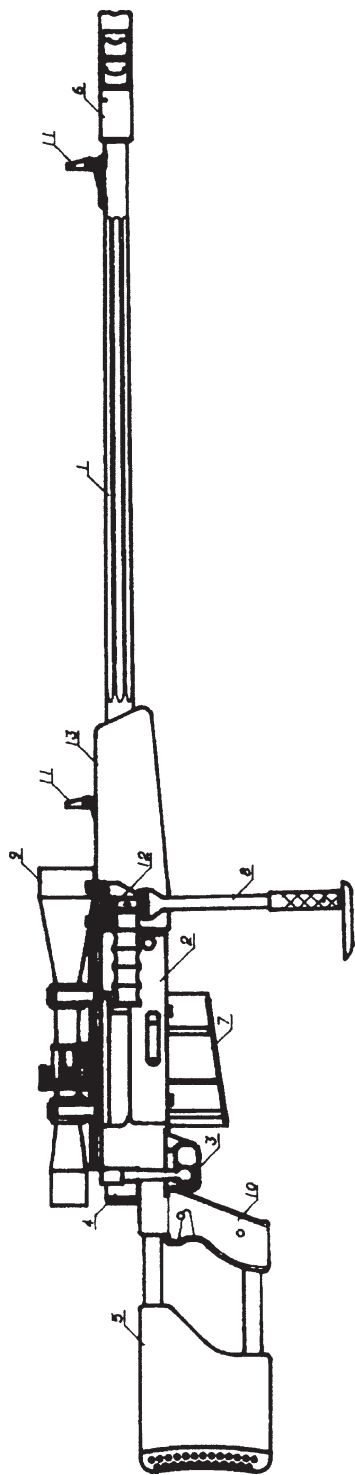
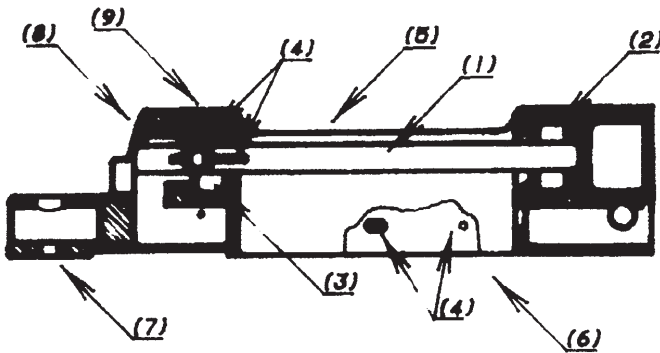

Fig. 1 – General view of the .50 Browning
Fig. 2 – Receiver
2. The rifle (Fig. 1) consists of the following parts and assemblies: barrel (1), receiver (2), triggering mechanism (3), bolt (4), stock (5), muzzle brake (6), magazine (7), bipod (8), optical sight (9), handgrip (10), mechanical sight (11), carrying handle (12), wooden cover (13), accessories (14).
3. Function of the barrel (1, Fig. 1) is to give bullet the direction of flight. Cartridge chamber and bullet lead section of the barrel are protected from corrosion by chrome coating.
4. The sights (front and rear) (11, Fig. 1) are folding type, non-adjustable, allowing for firing at distances up to 400 m. The sight bases are provided with dovetail guides which fit onto corresponding dovetail lugs located on the barrel.
5. Function of the receiver (2, Fig. 1) is to join together all parts of the rifle into a functional whole. The interior of the receiver serves to accommodate and guide the bolt. Inside the receiver (Fig. 2) there are:
- two longitudinal grooves (1) along which bolt nipples slide in forward-backward movement,
- two lugs (2) upon which the bolt nipples rest when closing the barrel bore with a part of spiral surface along which the bolt nipples slide in locking and unlocking - achieving the ultimate pushing of the round and extraction of the case out of the cartridge chamber respectively,
- lug in the rear part (3) as a support for the bolt rear nipple with a corresponding part of spiral surface,